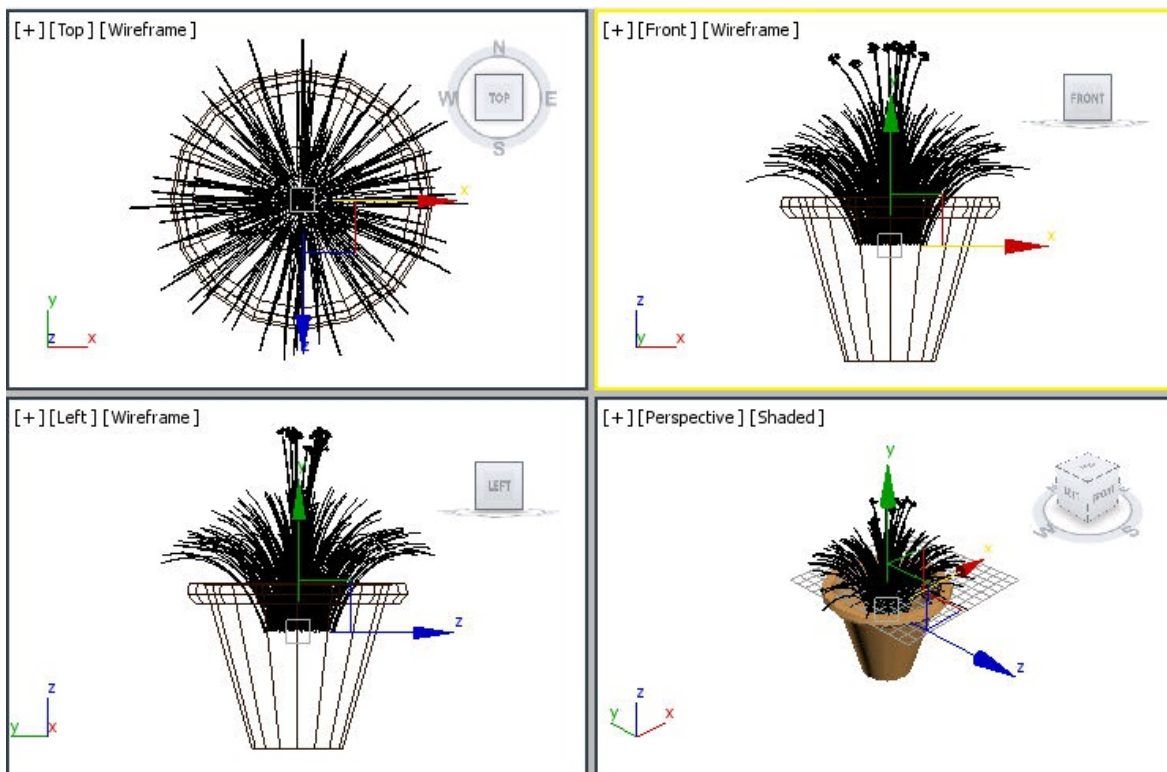

Figure 6-77 Alignment of plant with vase in viewports
9. Choose the **Select and Move** tool and align *plant* with *vase* in the viewports, refer to Figure 6-77.